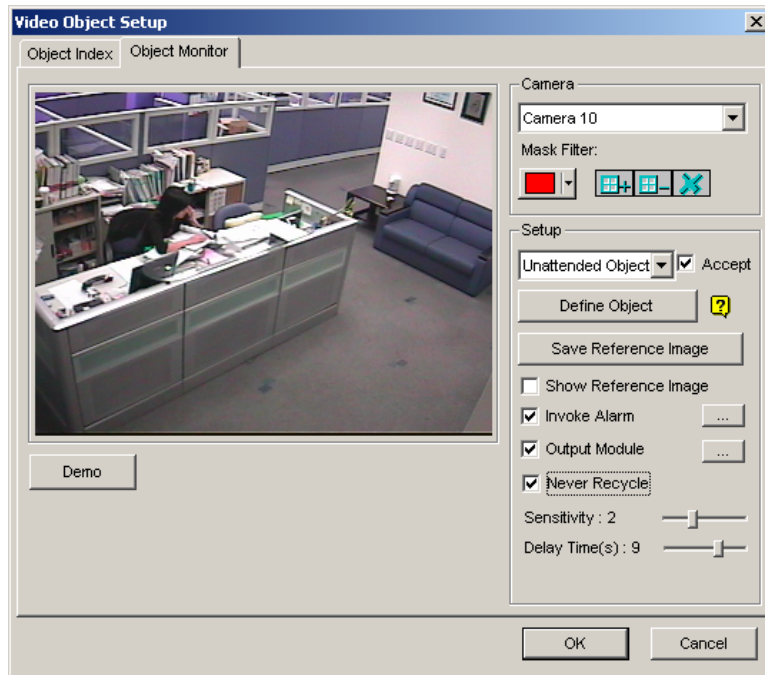

Figure 2-10 Object Monitor
1. Follow the step 1 to 4 in the above section of *Detecting Unattended Objects* to display the Video Object Setup window. Refer to figure 2-10.